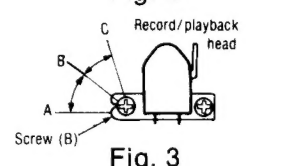
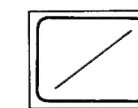

Fig. 3
Fig. 6
Adjust screw (B) in fig. 3 for maximum output L-CH and R-CH levels.
- Turn screw (B) shown in fig. 3 to find angles A and C (points where peak output levels for left and right channels are obtained). Then, locate angle B between angles A and C, i.e., and point where L-CH and R-CH outputs are balanced. (Refer to figs. 3 and 4.)
Adjust screw (B) shown in fig. 3 so that pointers of the two VTVMs swing to maximum and a lissajous waveform as illustrated in fig. 6 is obtained on the oscilloscope.